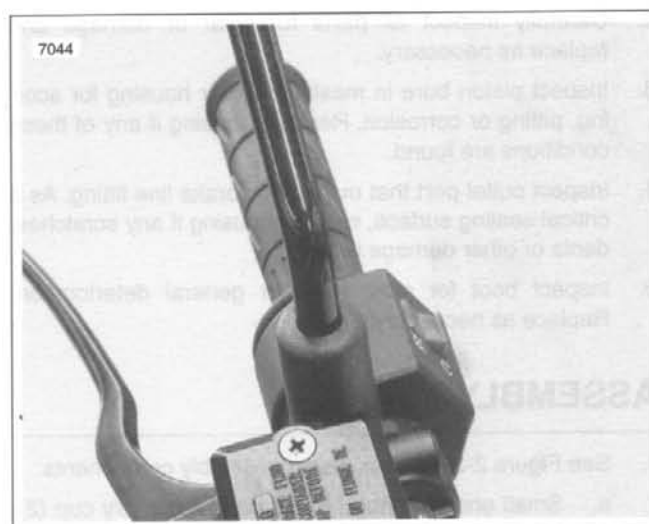

Figure 2-32. Mirror Installation
4. See Figure 2-32. Install mirror parallel to handlebars.